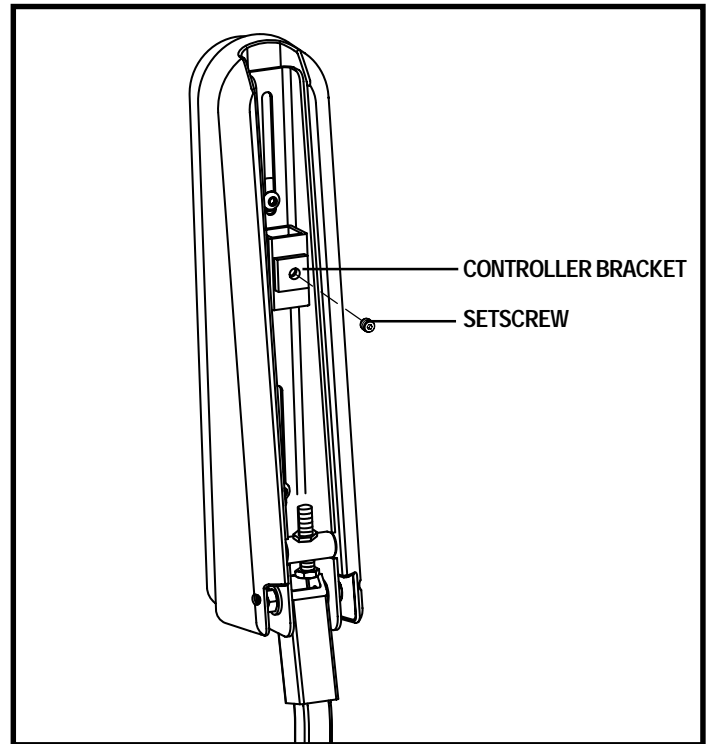

Figure 13. Underside of Armrest
You can move the controller in toward or out away from the armrest, or change the position of the controller for either left-hand or right-hand use. See figure 13.
2. Loosen the setscrew on the controller bracket. See figure 13.
5. Loosen the setscrew on the controller bracket. See figure 13.